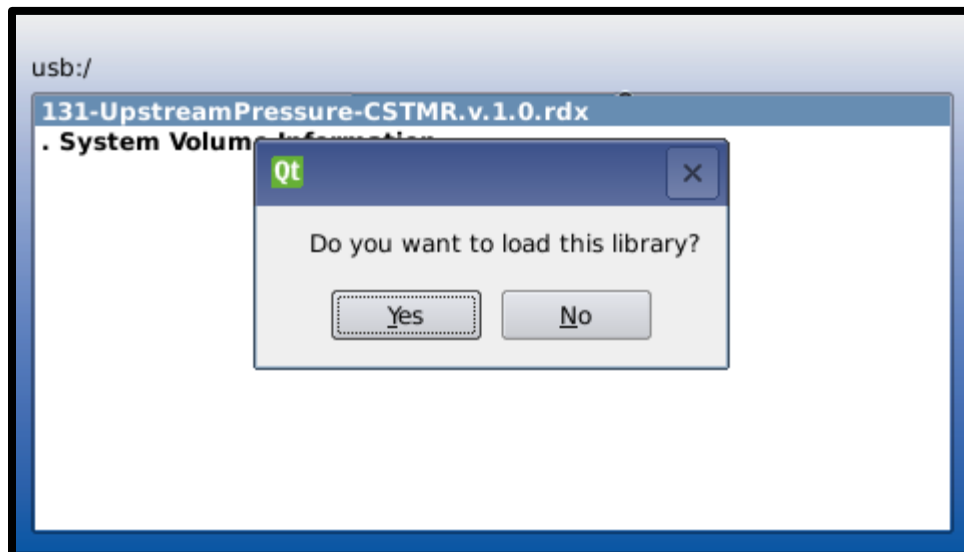

Figure 5.5
- d. When prompted for confirmation, highlight "Yes" using navigation arrows and press "OK" as shown in Figure 5.5.